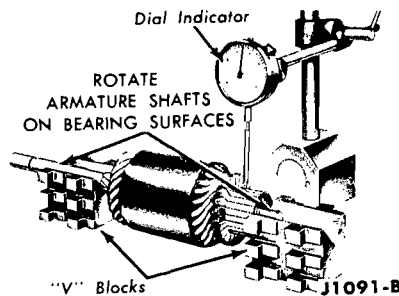

FIG. 4—Commutator Runout Check
4. Check the commutator for run-out (Fig. 4). Inspect the armature shaft and the two bearings for scoring and excessive wear. On a starter with needle bearings apply a small amount of grease to the needles. If the commutator is rough, or more than 0.005 inch out-of-round, turn it down.
6. Position the new insulated field brushes lead on the field coil terminal. Install the clip provided with the brushes to hold the brush lead to the terminal. Solder the lead, clip, and terminal together, using rosin core solder (Fig. 4). Use a 300-watt iron.
8. Position the ground brushes to the starter frame and install the retaining screws (Fig. 4).